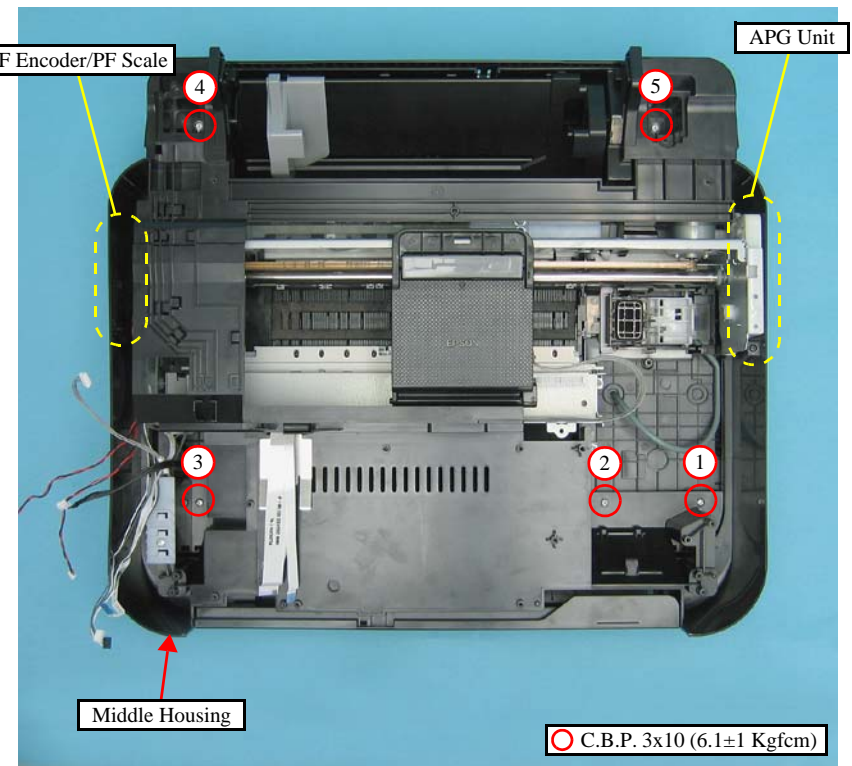

Figure 4-32. Removing the Middle Housing
- Tighten the screws in the order given in Fig. 4-32.